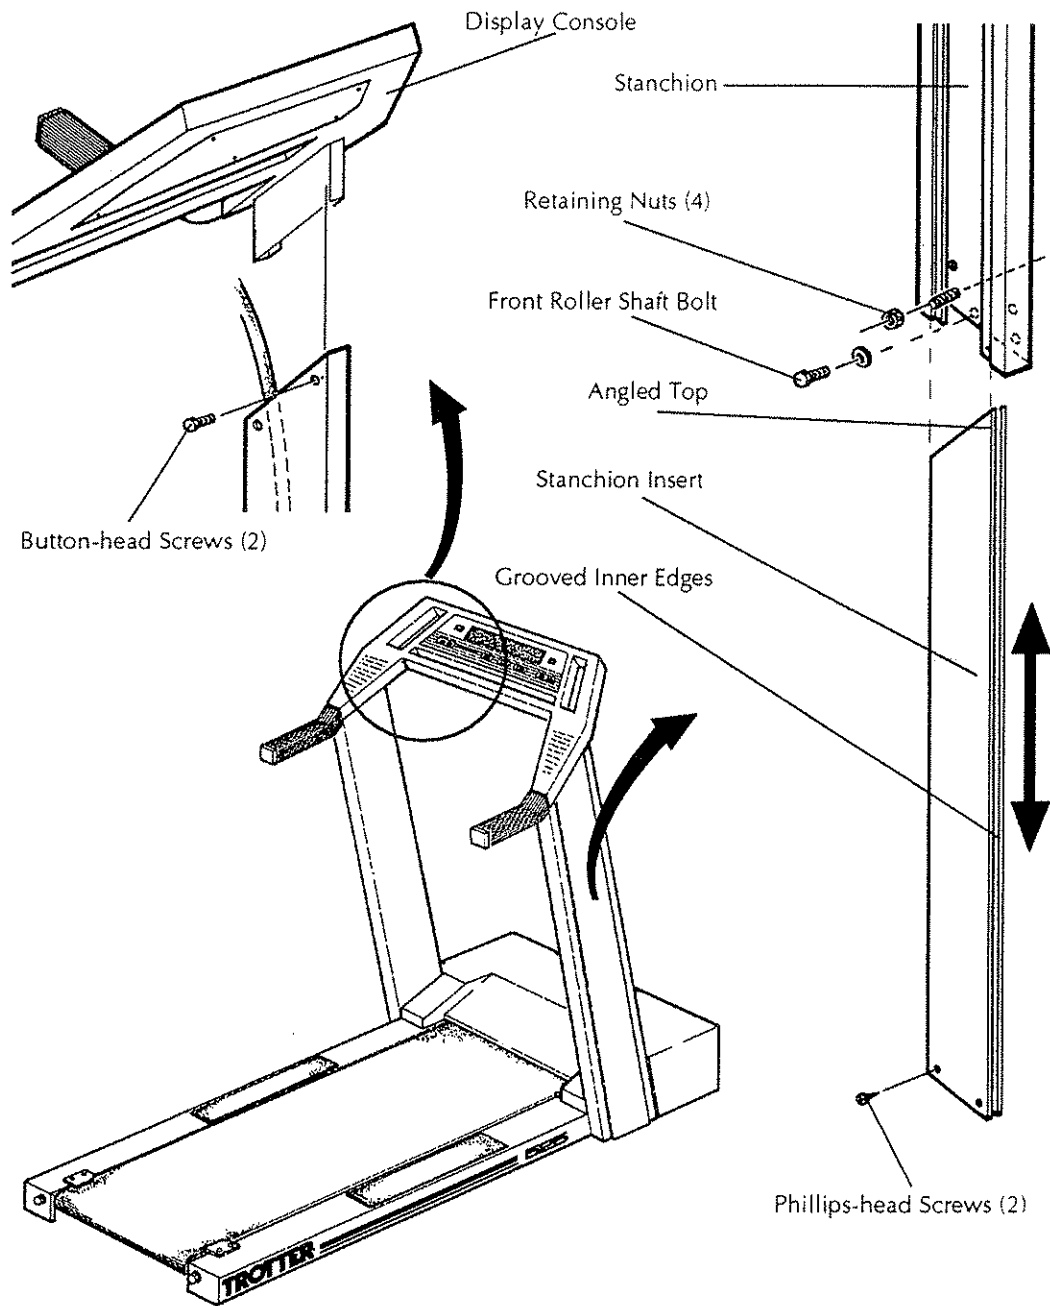

Figure 5-11: Replacing a Stanchion Insert and Stanchion
2. Tilt the treadmill onto its side. Make sure that the insert to be removed is facing up. See Figure 5-11.
Note: Observe the angled top of the insert. This allows it to conform to the shape of the display console. See Figure 5-11.
3. Remove the two Phillips-head screws securing the bottom of the insert to its stanchion. See Figure 5-11.
4. Pull the insert out of its stanchion. See Figure 5-11.
2. Remove the four retaining nuts securing the lower portion of the stanchion to the treadmill frame. See Figure 5-11.
3. Remove the two Button-head screws securing the upper portion of the stanchion to the display console. See Figure 5-11.
4. Carefully separate (lift up) the end of the display console from its stanchion and remove the stanchion. See Figure 5-11.
5. Support the front roller sheave with one hand. With the other hand loosen and remove the front roller shaft bolt securing the roller shaft to the right stanchion. See Figure 5-11.